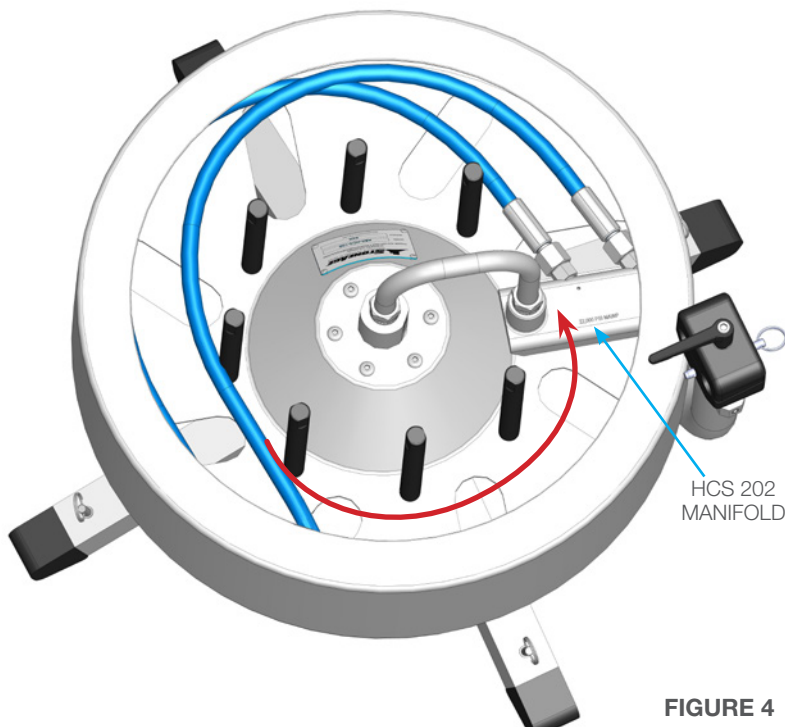

FIGURE 4
1. Thread the high pressure hoses onto the HCS 202 Manifold and wrap the remainder of the hoses around the rods, in the direction of the red arrow (**Figure 4**).